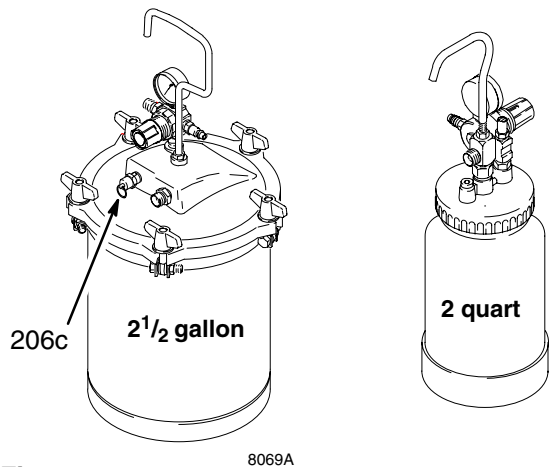

Fig. 6
1. Relieve remote pressure pot pressure as follows (see Fig. 6):